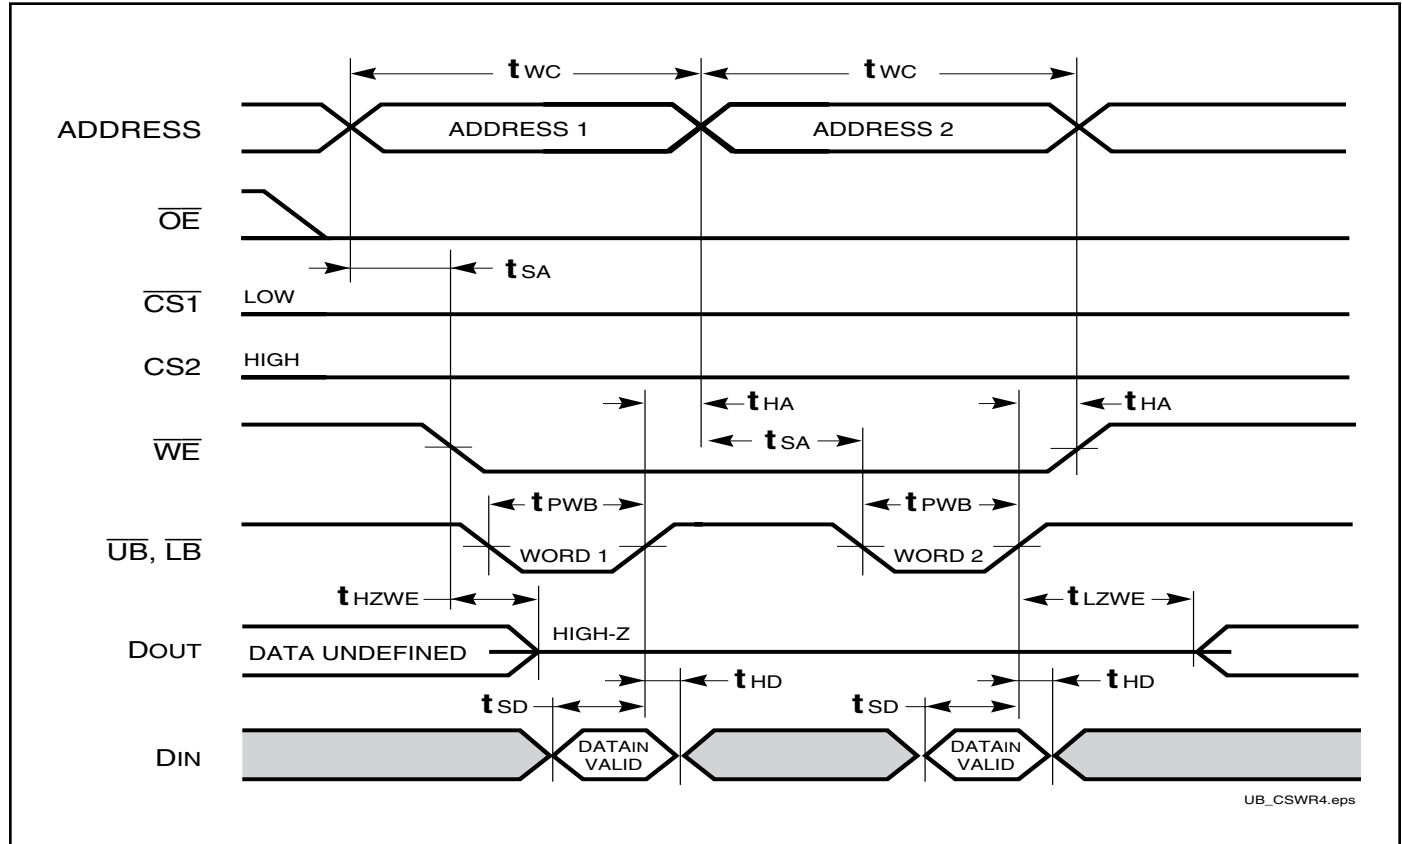
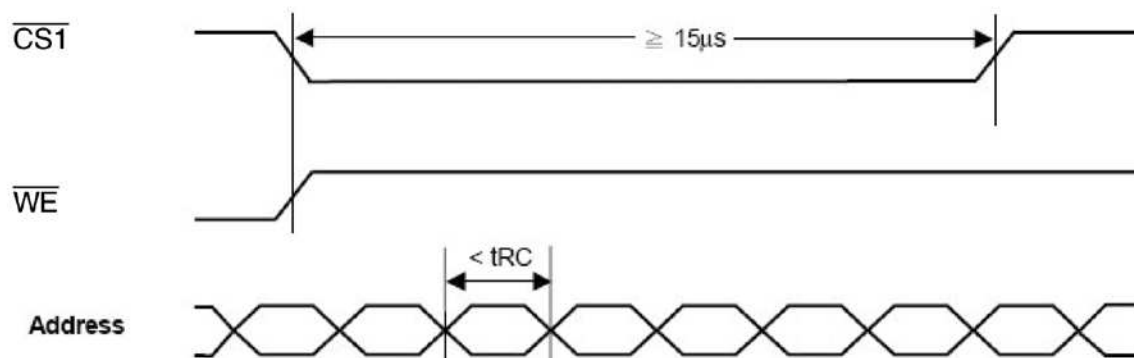

Figure 1: Avoidable Timing
Figure 2:
- Test conditions assume signal transition times of 5 ns or less, timing reference levels of 0.9V/1.5V, input pulse levels of 0.4 to V_{DD}-0.2V/0.4V to V_{DD}-0.3V and output loading specified in Figure 1.
- Tested with the load in Figure 2. Transition is measured ± 100 mV from steady-state voltage. Not 100% tested.
Please avoid address change for less than t_{RC} during the cycle time longer than 15 μs (Figure 1). Figure 2 & 3 provide work around solution for this issue.